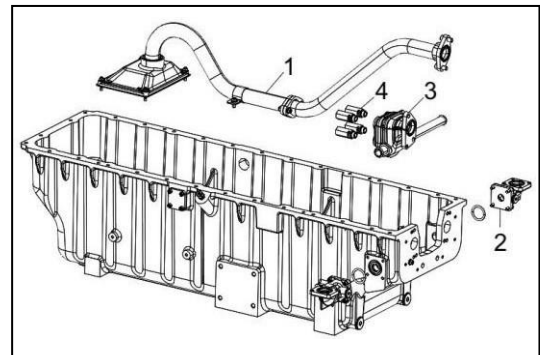

Figure 145
3. Assemble the oil pan group if disassembled (Figure 145).